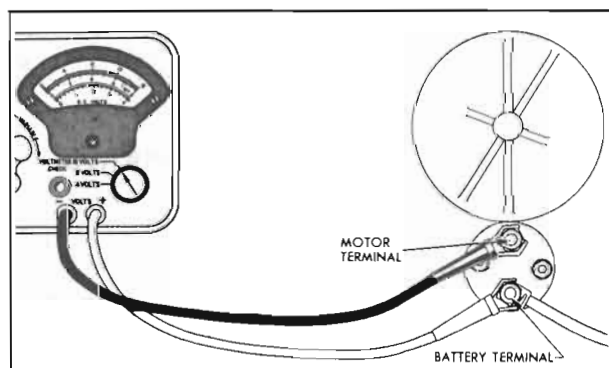

Figure 10-32—Solenoid Switch Contact Test Connections
6. With voltmeter switch turned to any scale above 12 volts, connect voltmeter negative (–) lead to the motor terminal of solenoid switch, and connect positive (+) lead to battery terminal of switch. See figure 10-32.